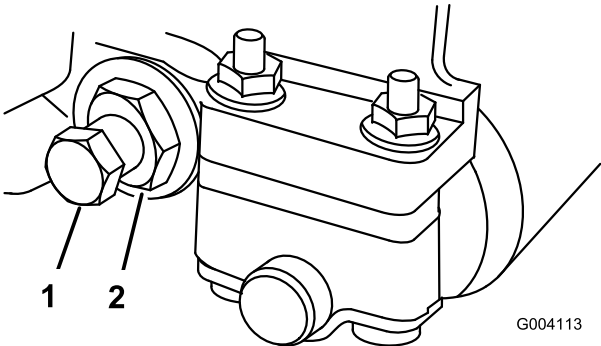

Figure 61
- 2. Back out the spring tension nut, until the washer is no longer tensioned against the bedbar (Figure 61).
- 3. On each side of the machine, loosen the jam nut securing the bedbar bolt (Figure 61).